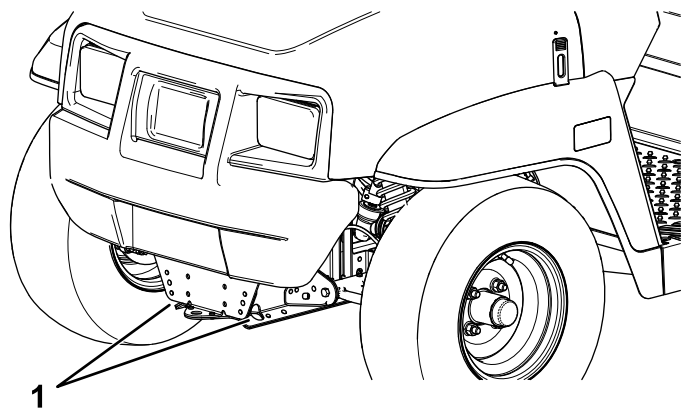
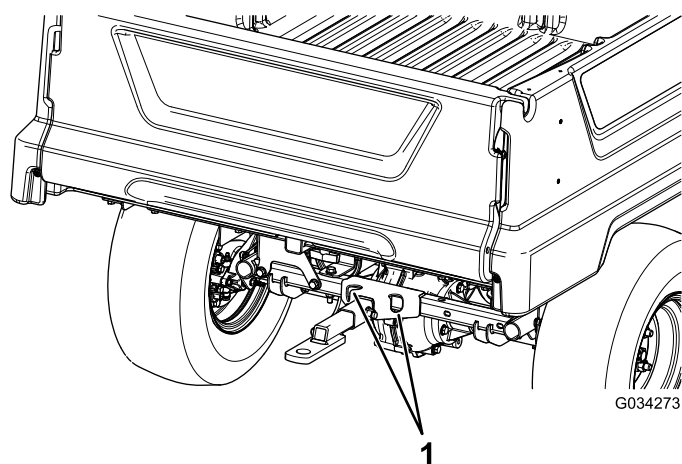

Figure 20
Figure 21
Refer to Figure 20 and Figure 21 for the tie-down locations on the machine.
2. Affix a tow line to the tongue at the front of the machine frame (Figure 20).